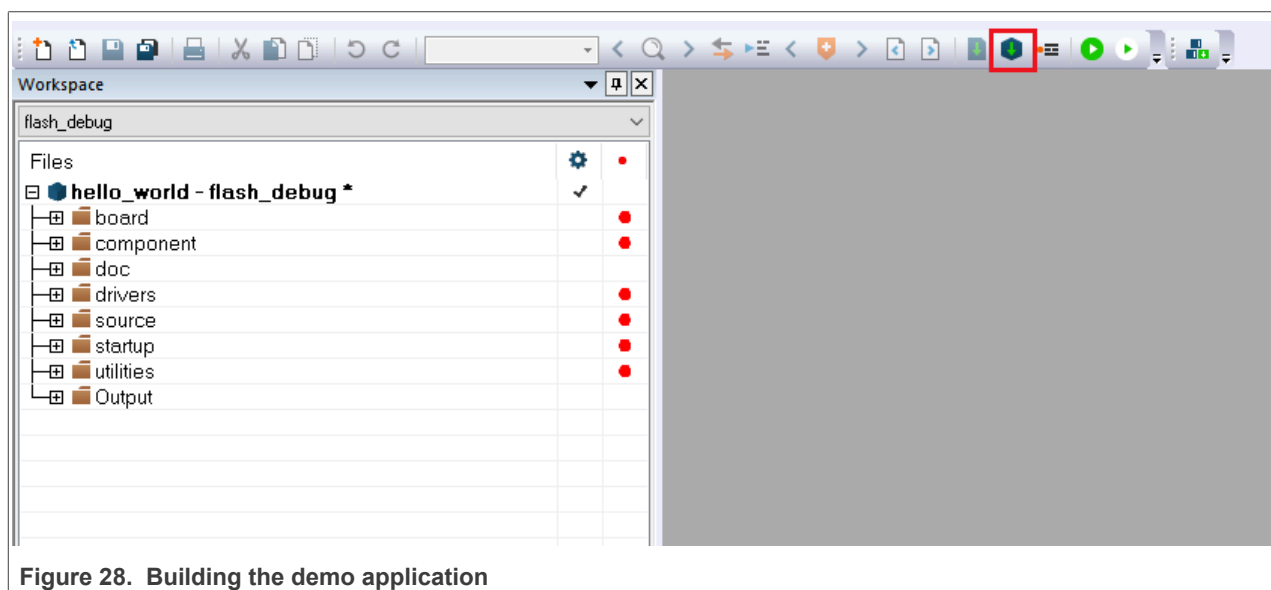

Figure 28. Building the demo application
3. To build the demo application, click **Make**, highlighted in red in Figure 28.